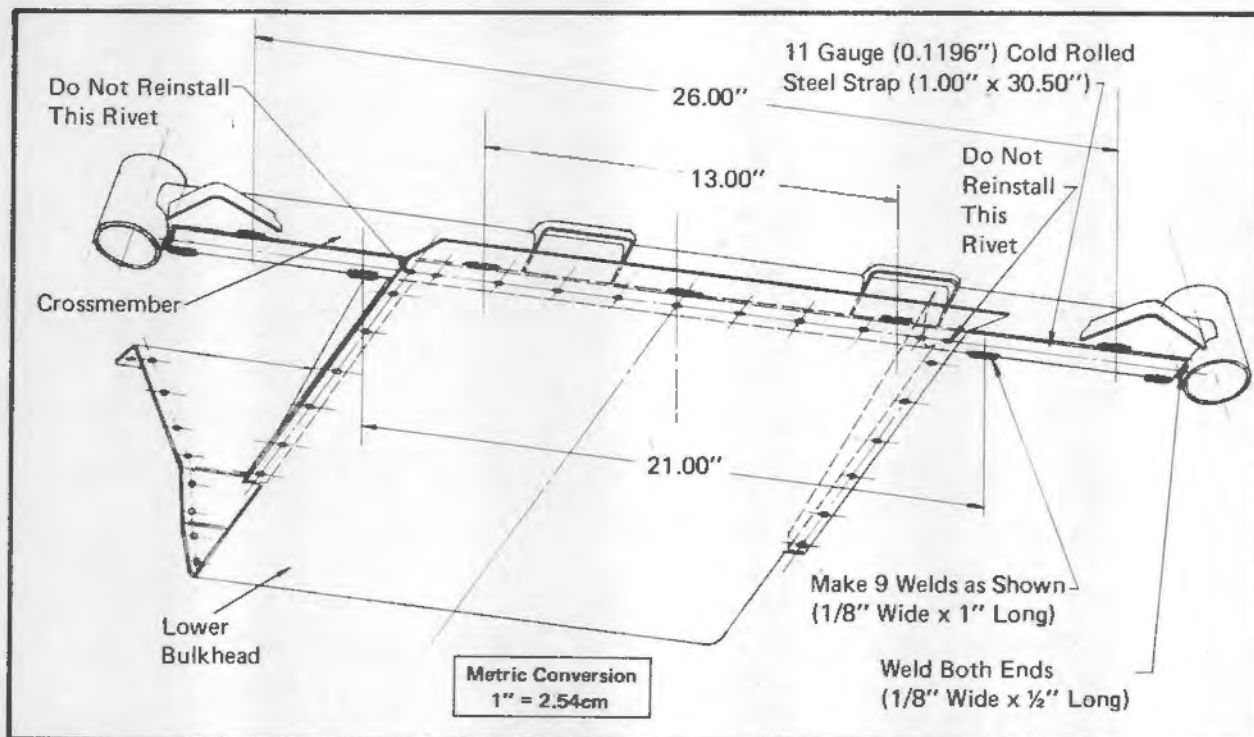

Figure 1. Reinforcing Crossmember (Viewed from Underside)
1. Remove 11 rivets which secure lower bulkhead to crossmember. (Figure 1) If any cracks in crossmember are evident, weld as necessary before installing reinforcing steel strap.
2. Position a reinforcing steel strap [11 gauge (0.1196") cold rolled steel (1.00" x 30.50")] between lower bulkhead and crossmember. (Figure 1)
3. Securely weld steel strap to crossmember ONLY at locations shown in Figure 1.
**IMPORTANT:** Outer rivets (one each side - Figure 1) will not be reinstalled, therefore, DO NOT drill a rivet hole thru steel strap at these locations.
5. Secure lower bulkhead to crossmember with 9 steel rivets (D-17-74671). (Figure 1)